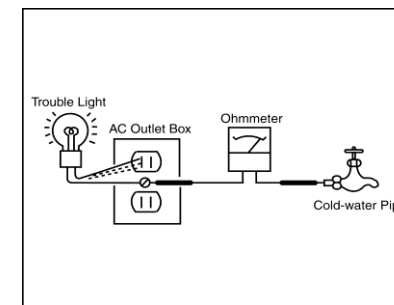

Figure 3. Checking for earth ground.
- 3) If a cold-water pipe is not accessible, connect a 60- to 100-watt trouble-light (not a neon lamp) between the hot side of the receptacle and the retaining screw. Try both slots, if necessary, to locate the hot side on the line; the lamp should light at normal brilliance if the screw is at ground potential (see Figure 3).